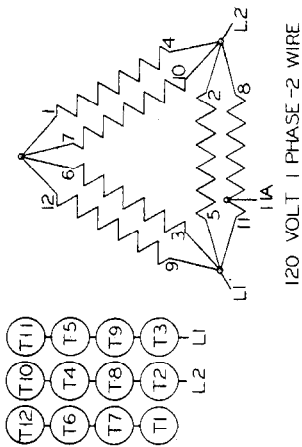

FIGURE 1
3. When using 120 volt connection (Fig. 1 or 2) the Regohm voltage regulator in the controller must be corrected for 120 volt operation by shorting out the non-adjustable resistor next to the regulator plug-in unit.